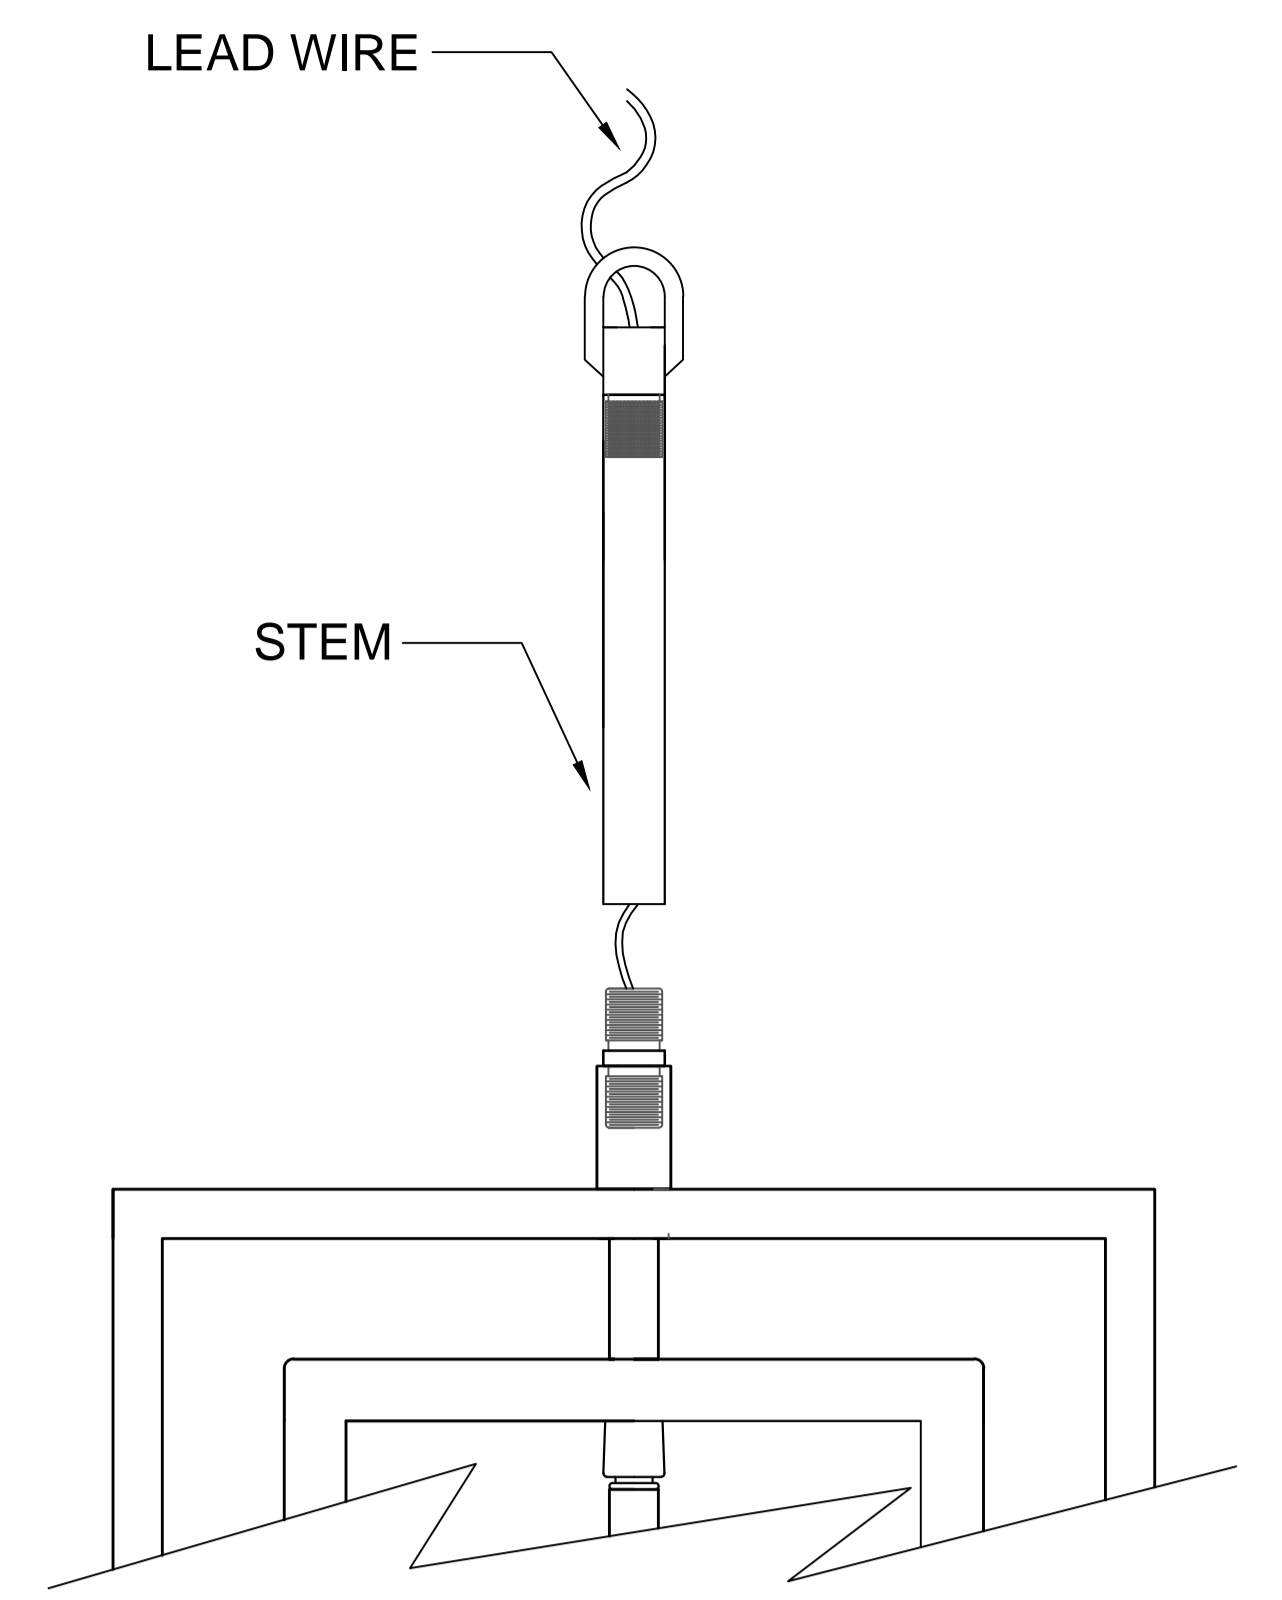

FIGURE-02
- Open the end links of the chain and attach the chain to the screw collar loop. Insert the lead wire to the stem then thread in the stem into the frame. (See Figure-02)